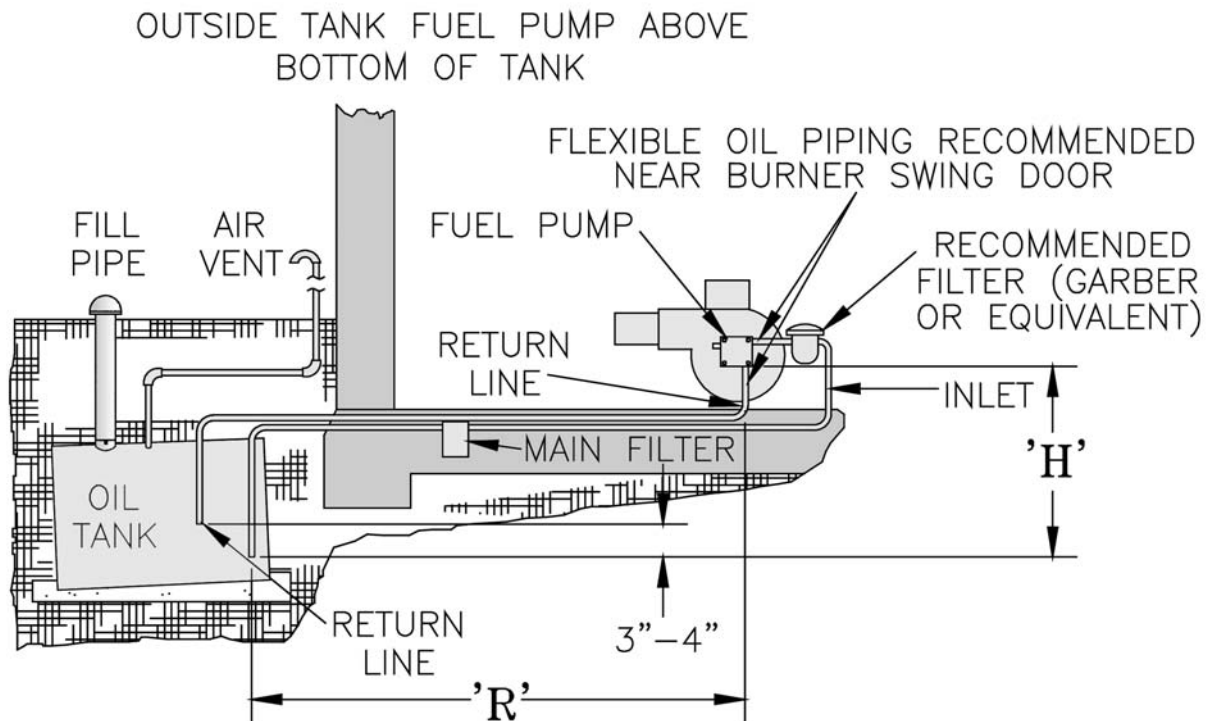

Figure 25: Two Pipe Oil Lines
1. For two piped systems, where more lift is required, the two-stage fuel unit is recommended. Table 3 (two-stage) and Table 4 (single-stage) show allowable lift and lengths of 3/8 inch and 1/2 inch OD tubing for both suction and return lines. Refer to Figure 25.
| Lift "H" (See Fig. 25) | Maximum Length of Tubing "H" + "R" (See Figure 25) | |